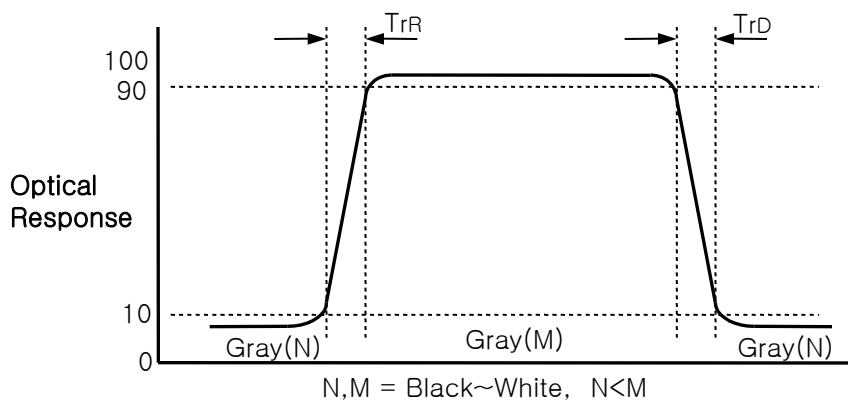

FIG. 3 Response Time
4. Response time is the time required for the display to transition from  $G(N)$  to  $G(M)$  (Rise Time,  $Tr_R$ ) and from  $G(M)$  to  $G(N)$  (Decay Time,  $Tr_D$ ). For additional information see the FIG. 3. ( $N < M$ )